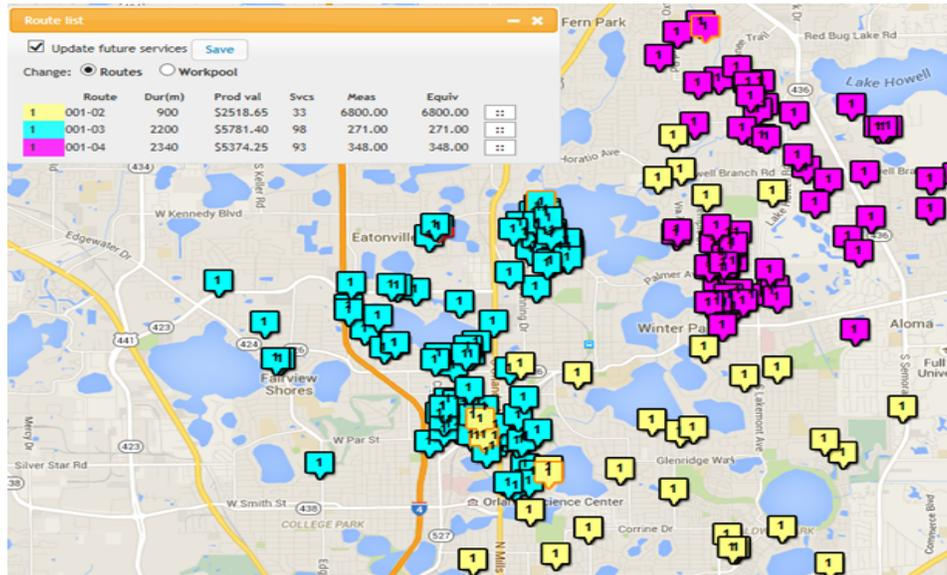

Figure 16
5. Click **“save”** to save these changes (under file or above the date list on the left hand side below the orange bar) (Fig. 16).